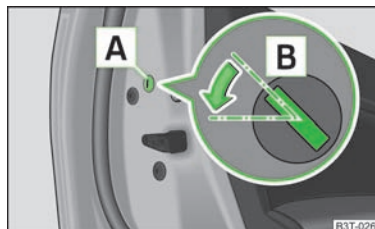

Fig. 17
- Remove the panel [A] » Fig. 17.